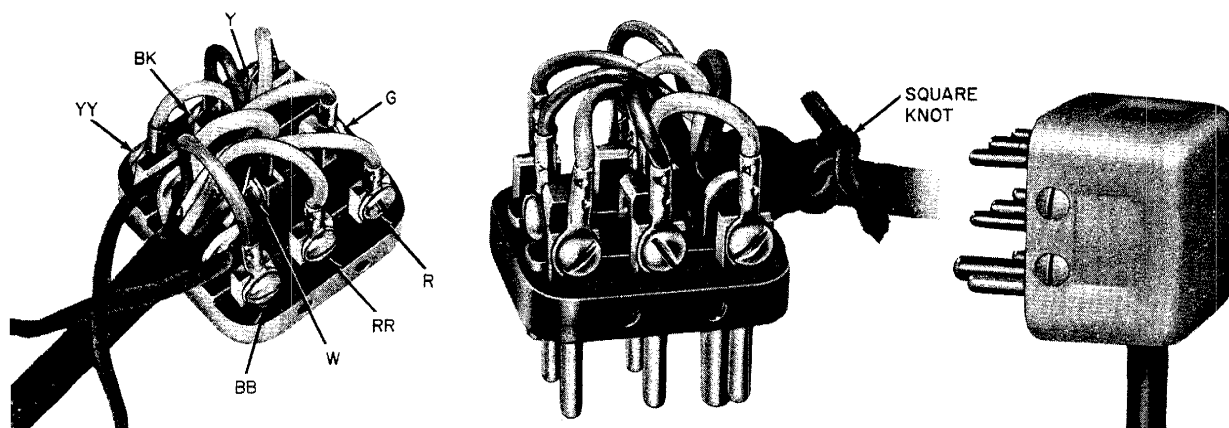

Fig. 5—274A Plug
2.06 The 274A plug (Fig. 5) is a 2-piece, 8-contact plug of molded plastic. It is intended for use with braided fabric covered mounting cords and is equipped with two eyes to which the braid is secured. It is available in color as shown in Table B.
- (1) Make connections as indicated by color designations stamped adjacent to terminals.
- (2) Connect cord spade tips as shown in Fig. 5.
- (3) Tie mounting cord securely.
- (4) Place shell on base and tighten screws.